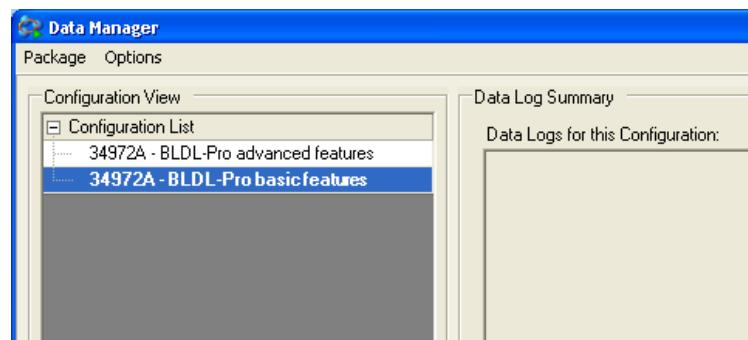

Figure 12 – Open configuration 34972A-BLDL Lab
- A Configuration file has already been created for this lab. Click **Configuration** -> **Open** and from the Configuration list select **34972A-BLDL-Pro basic features**. Press **Open** to open the configuration (figure 12).